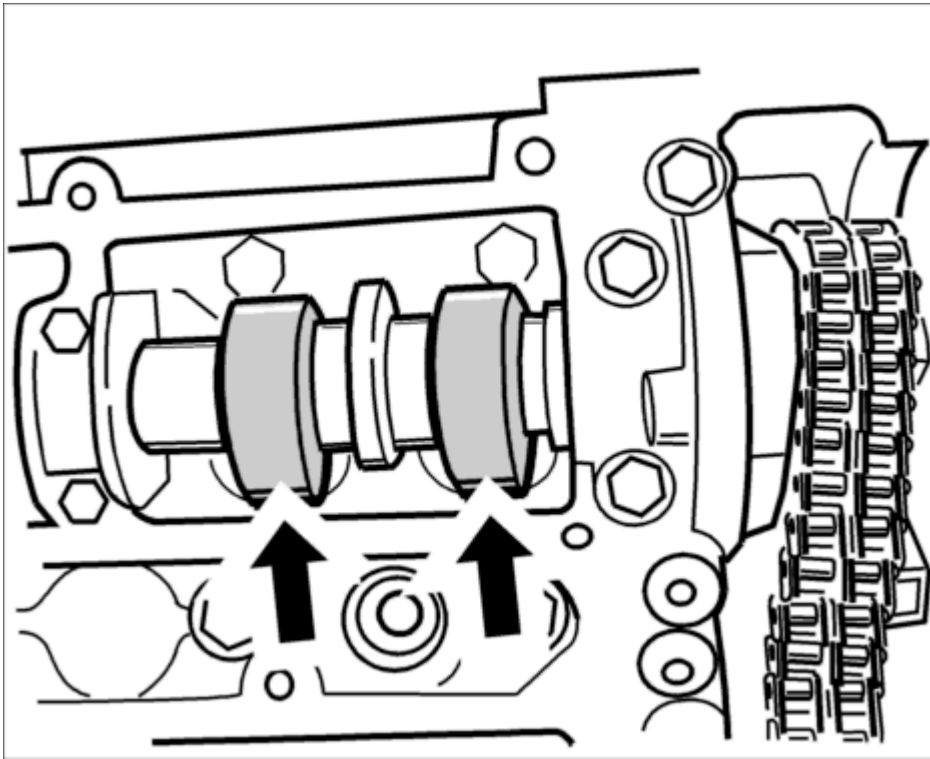

Fig. 71: Exhaust camshaft 4 - 6
6. Insert exhaust camshaft 4-6. Lay the timing chain on the flange for the sprocket, then insert the camshaft at overlapping TDC of cylinder 4 (the outlet cams of cylinder 4 point towards the cams of the inlet camshaft - **arrows-**). See **Fig. 71**.